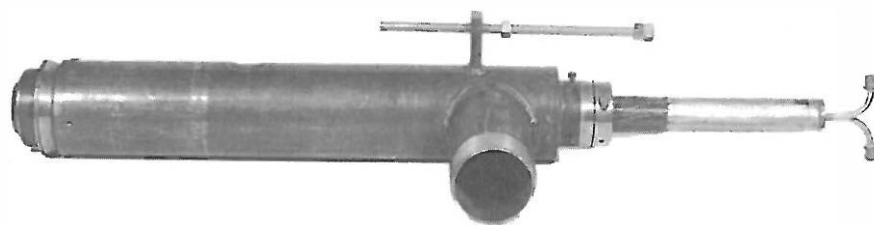

FIGURE 22 - COMPLETE DUAL FUEL ASSEMBLY
5. Refer to Figure 22 for complete dual fuel assembly.